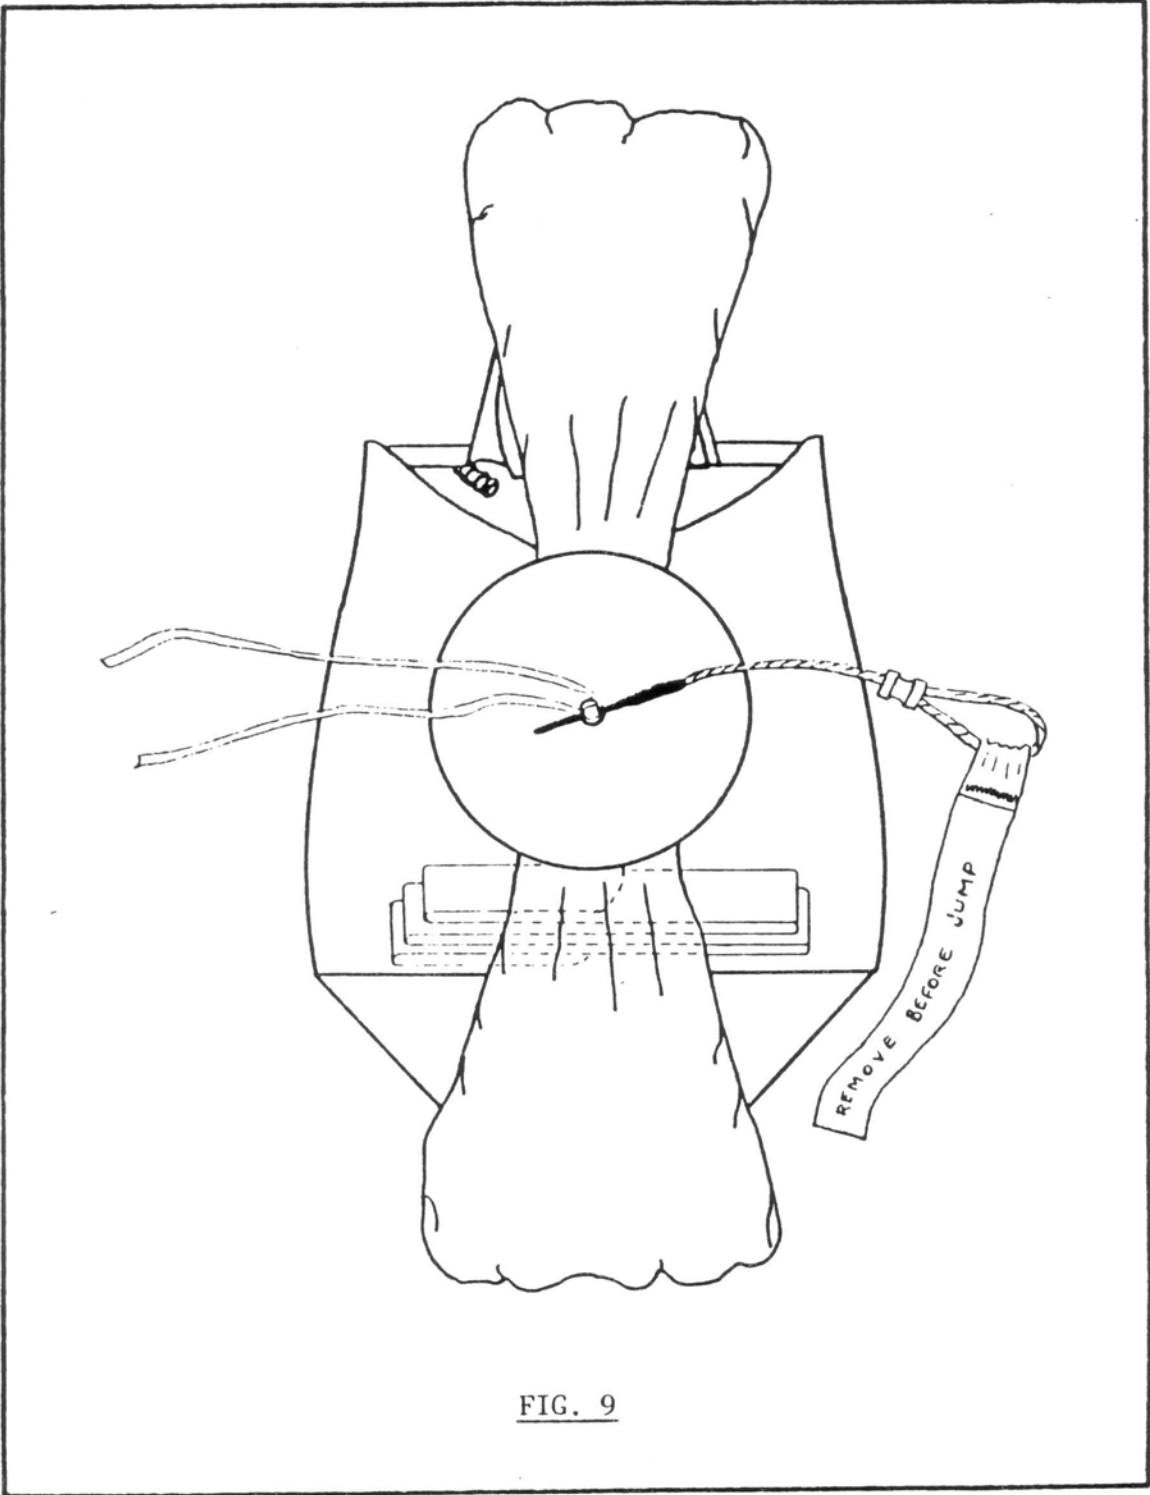

FIG. 9
- 9) On each side of the top plate make a roll or fold in the pilot chute fabric parallel to the side of the reserve container, and push this roll under the top plate. Fold the bridle in accordian folds across the bottom of the container on top of the side flaps. The width of the folds will vary with the width of the container; a simple rule-of-thumb is, "Make the folds as wide as possible, but not so wide as to be seen when the bottom flap is closed". (See FIG. 9.)